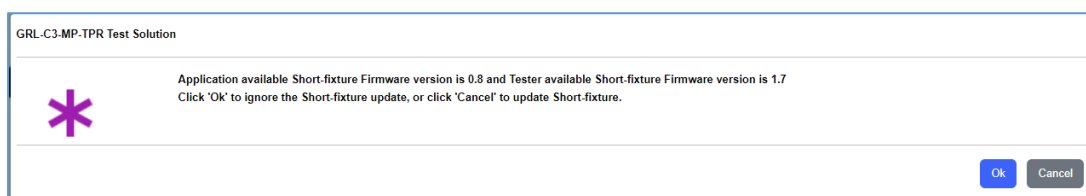

FIGURE 3.2: UPDATE GRL-C3-MPP-EXT FIRMWARE- #2
2. The following pop-up message will appear as shown in Figure 3.2 below. Click "Cancel" to proceed with firmware update for the GRL-C3-MPP-EXT fixture.